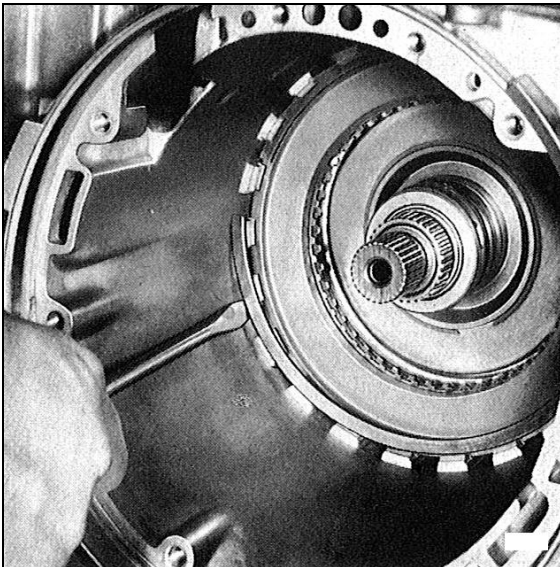

FIGURE 3-57
Remove the intermediate clutch snap ring (640) that retains the intermediate clutch backing plate (641) to the case. See Figure 3-55. Remove the intermediate clutch backing plate (641) and the remaining components of the intermediate clutch pack (642,643,644) from the transmission case. See Figure 3-57 and 3-58.